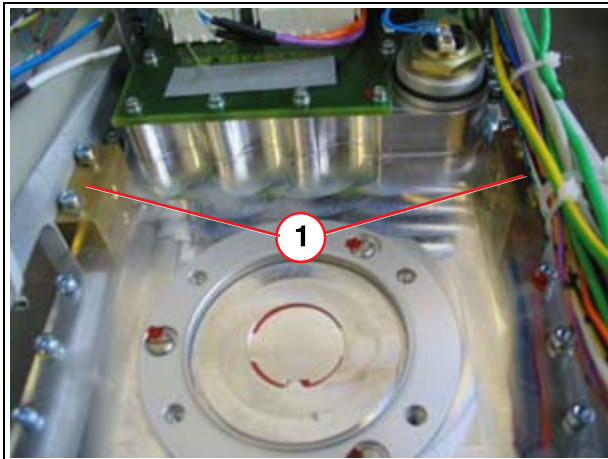

Fig. 14: Bracket
7. Remove the ISK screw from the connection single tank housing - bracket (1/Fig. 14 / p. 34).
21. Fix each bracket (1/Fig. 14 / p. 34) with the ISK screw and insert the shim (s) (Fig. 15 / p. 34) into the required position before tightening the ISK screws (use Loctite 221).
- ⇒ No gap should be between the bracket (1/Fig. 14 / p. 34) and the single tank housing.